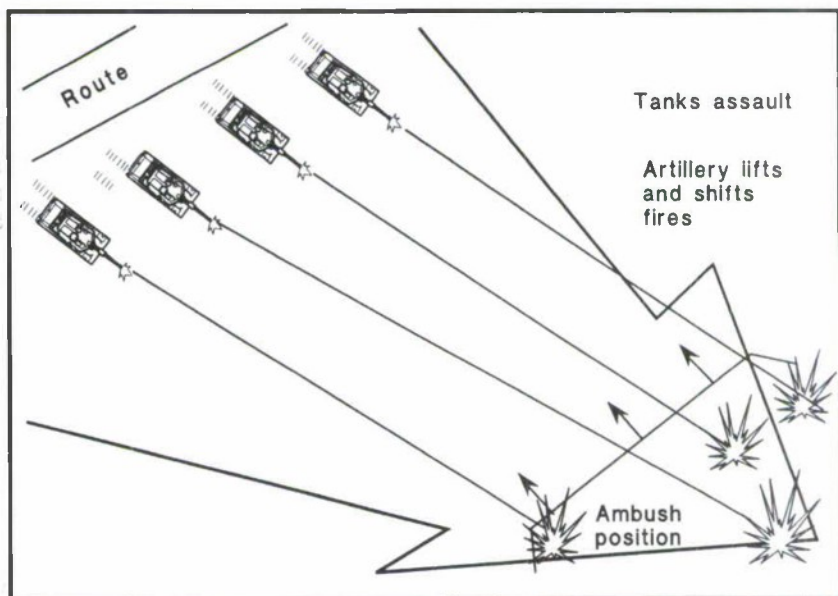

Figure 5-9B. Escort assaults ambush.
- Assault the enemy (see Figure 5-9B).